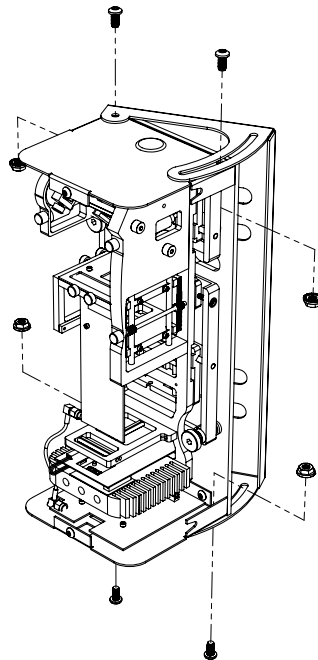

Figure 7
7. Drill the mounting holes. Tap threads or install anchors as necessary. Attach the angular bracket to the unit using four bolts and nuts. Leave the nuts finger tight until all course adjustments have been made. See Figure 7 below.